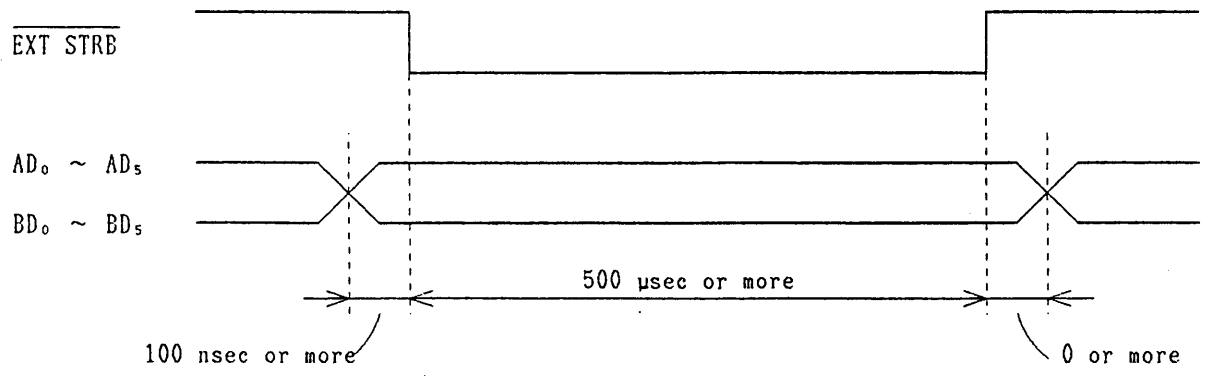

Figure 4-7
(2) Note that each of the signal lines of the ATT range signal has its own meaning.
(3) A timing chart of the EXT STRB is shown in Figure 4-7.